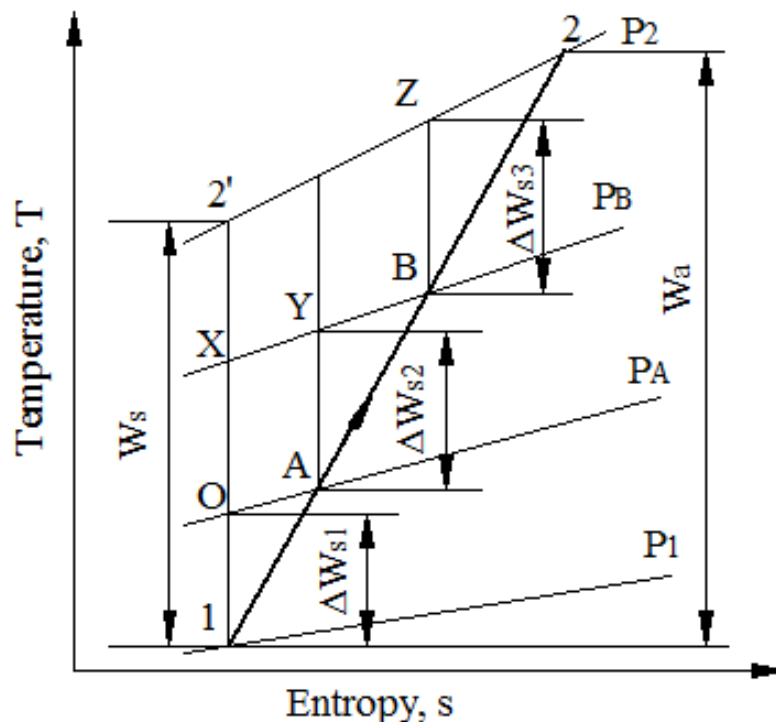

Fig. 2.4 Effect of preheat on compression process
The thermodynamic effect of multistage compression can be studied by considering three stage compressor working between inlet pressure  $p_1$  and the delivery pressure  $p_2$  as shown in the figure 2.4. The intermediate pressures are being  $p_A$  and  $p_B$ . The stage pressure ratio,  $p_r$  and the stage efficiency,  $\eta_{st}$  are assumed to be same for all stages. The process 1-2\* and 1-2 are the isentropic and actual compression process respectively.
**Answer:** Consider three stage compressor working between inlet pressure  $p_1$  and the delivery pressure  $p_2$  as shown in the figure 2.4. The intermediate pressures are being  $p_A$  and  $p_B$ . The stage pressure ratio,  $p_r$  and the stage efficiency,  $\eta_{st}$  are assumed to be same for all stages. The process 1-2'' and 1-2 are the isentropic and actual compression process respectively.